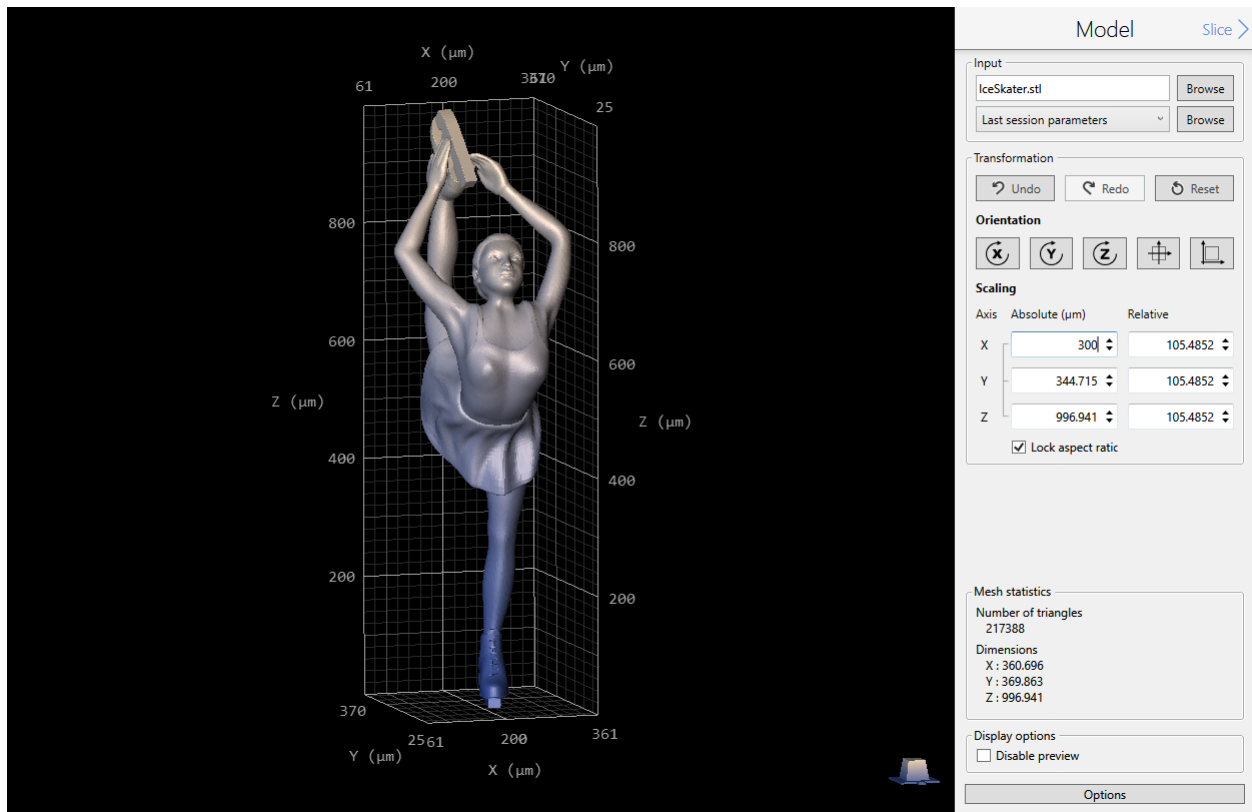

Figure 8.2.: The ice skater design can be visualized in DeScribe. The model can be resized and rotated after opening.
The design considered is the figure of a dancing ice skater. Figure 8.2 shows the STL import wizard with the preview of the model opened with DeScribe. The wizard is divided into five steps, Model, Slice, Fill, Scaffold and Output, which are shown one at a time on the right hand side of the preview, as shown in Fig. 8.2 and 8.3. In the following, each step will be explained in detail.
2. Open your STL structure in DeScribe (Fig. 8.2).